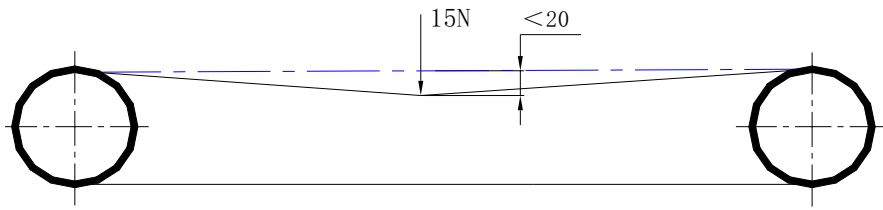

Figure 4-1 Requirement for the tightness of the synchronous belt
- a) The tightness of the synchronous belt should be adjusted regularly. The requirement for the tightness is shown in Figure 4-1.